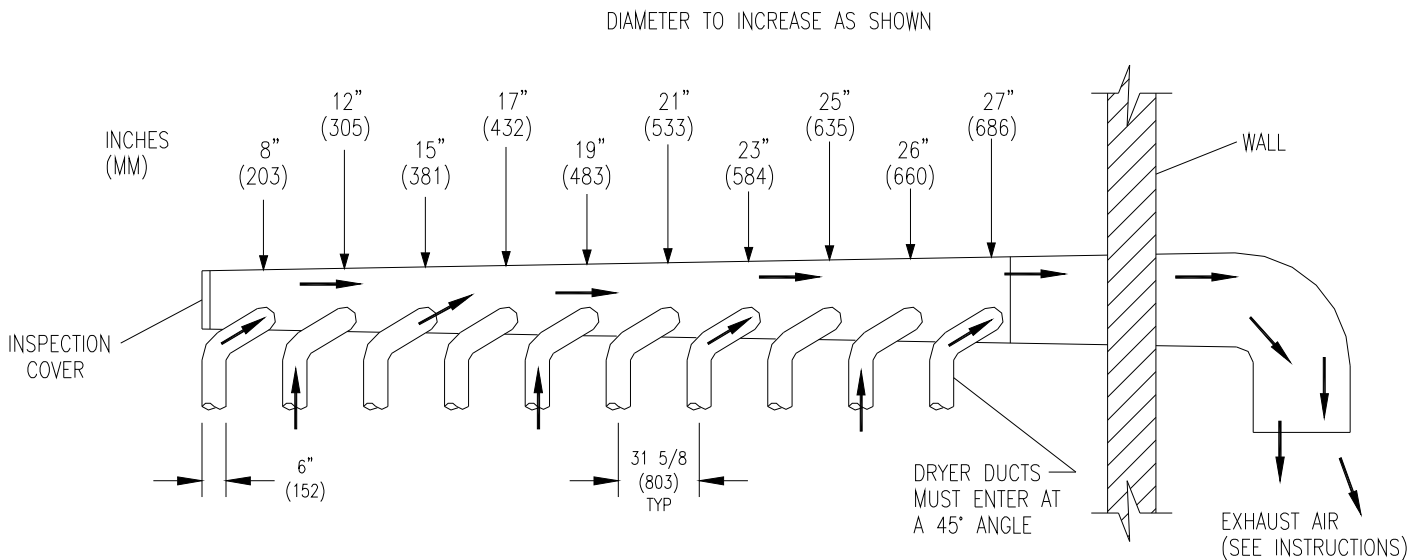

FIGURE 3- Dryer Exhausting Using A Main Discharge Duct.
6. **EXHAUST INSTALLATION.** (Refer to Figure 3 at the end of section 6.) Exhausting of the dryer(s) should be planned and constructed so that no air restrictions occur. Any restriction due to pipe size or type of installation can cause slow drying time, excessive heat, and lint in the room.
Installation of several dryers, where a main discharge duct is necessary, will need the following considerations for installation (see Figure 3). Individual 6 in. (152 mm) exhaust ducts from the each dryer should enter main discharge duct at a 45-degree angle in the direction of discharge airflow.
NOTE: Never install the individual ducts at a right angle into the main discharge duct. The individual ducts from the dryers can enter at the sides or bottom of the main discharge duct. Figure 3 indicates the various round main duct diameters to use with the individual dryer ducts. The main duct can be rectangular or round, provided adequate airflow is maintained. The total exhausting (main discharge duct plus duct outlet from the dryer) should not exceed the equivalent of 14 ft. (4.5 m) and two elbows. The diameter of the main discharge duct at the last dryer must be maintained to exhaust end.